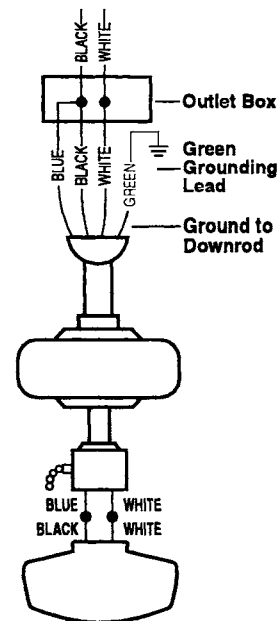

Figure 13
1. Connect the ground conductor of the 120v supply (this may be a bare wire or a wire with green colored insulation) to the green ground lead(s) of the fan (Fig.13). When using standard ceiling mounting, there are two green grounding leads; one from the ceiling mounting bracket and one from the ball/downrod assembly. When using Close-to-Ceiling mounting, there is only one green ground lead from the ceiling mounting bracket since the ball/downrod assembly is not used.
2. Connect the fan motor white wire to the supply white (neutral) wire using a wire nut (Fig.13).
3. Connect the fan motor black wire to the supply black (hot) wire using a wire nut (Fig.13).
1. Connect the two wires for the light kit exiting the bottom of the motor with the wires from the light kit. See Figure 13 on Page 7.